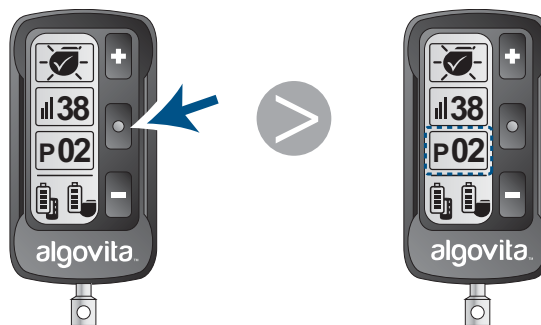

Figure 44. Selecting the Program icon
1. Repeatedly press  until **P #** blinks (Figure 44).